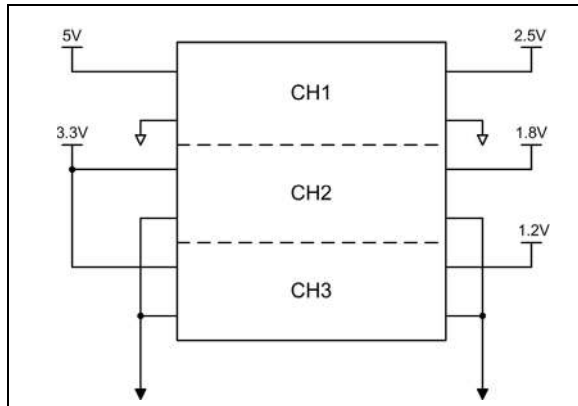

**FIGURE 5-3:** Switching Frequency vs. Load Current.
As shown in Equation 5-11, the load at which the MIC23450 transitions from HyperLight Load mode to PWM mode is a function of the input voltage ( $V_{IN}$ ), output voltage ( $V_{OUT}$ ), duty cycle (D), inductance (L) and frequency (f). As shown in Figure 5-3, as the Output Current increases, the switching frequency also increases until the MIC23450 goes from HyperLight Load mode to PWM mode at approximately 120 mA. The MIC23450 will switch at a relatively constant frequency around 3 MHz once the output current is over 120 mA.